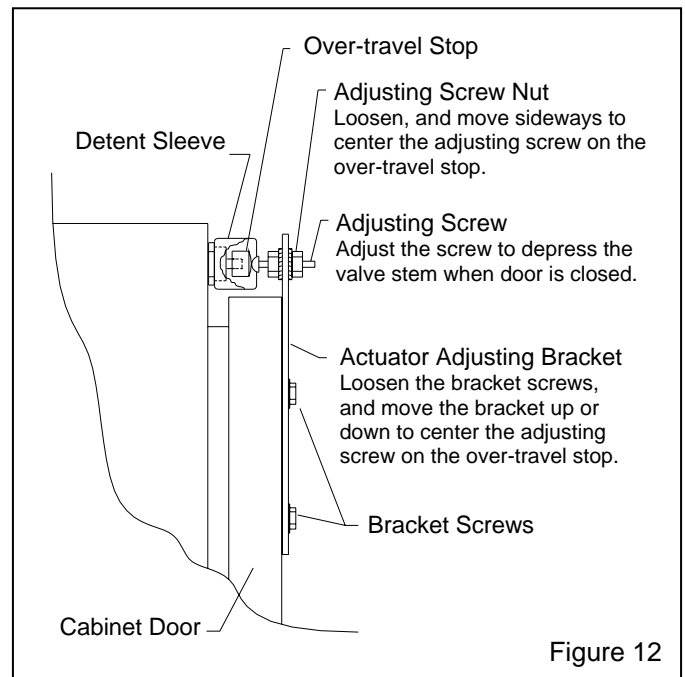

Figure 12
5.5 Door Interlocks, Figure 12